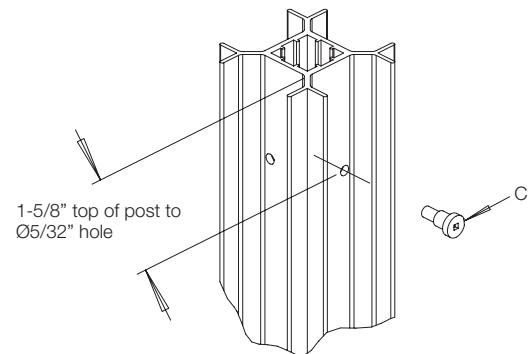

Fig 5
2.3. Now, attach the carrier to the post aligning the two pre-drilled holes (at the bottom) and using fastener (F) 5 plcs. If the shoulder screw in step 2.2 was installed, make sure to first engage it with the keyhole at the top of the carrier. (Fig 5)